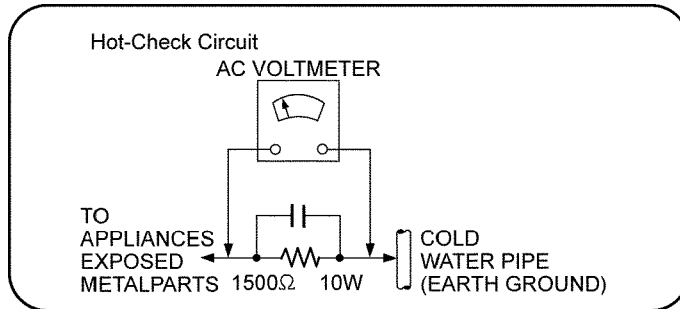

Fig. 1
2. Connect a 1.5kW, 10 watts resistor, in parallel with a 0.15mF capacitors, between each exposed metallic part on the set and a good earth ground such as a water pipe, as shown in Figure 1.